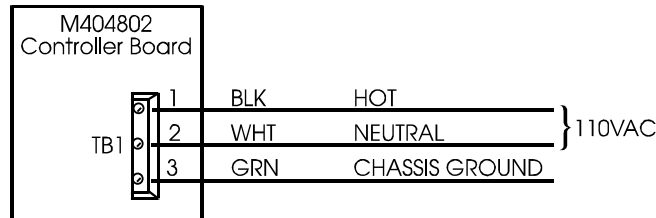

Figure 39. AC Wiring to Visibility Sensor Controller Board
2. Terminate the AC power cable to TB1 on the controller board as shown in Figure 39.